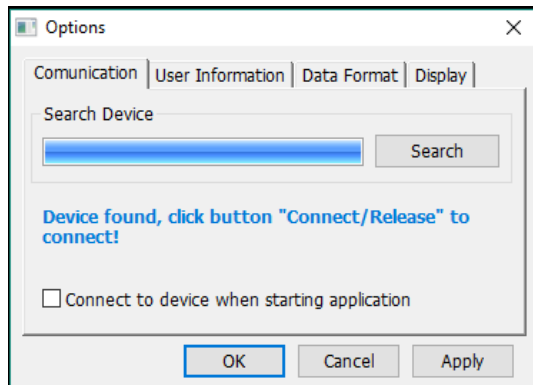

Fig. 2.6-4 Device found
- At the end of research **Device found** (Fig.2.6-4); click **OK** to confirm.